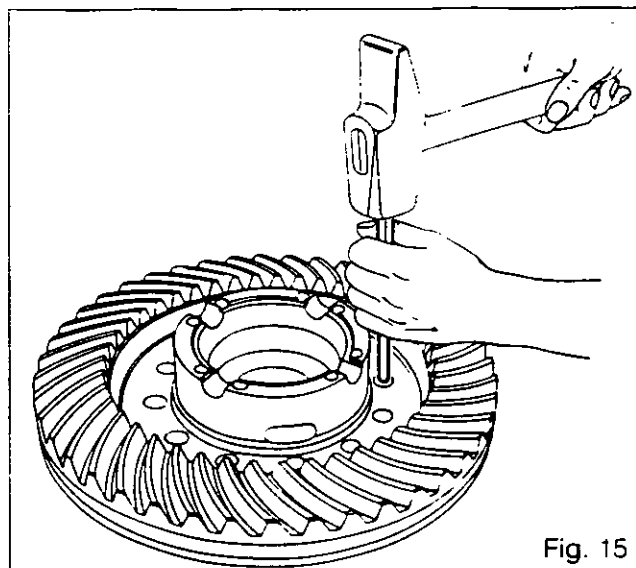

Fig. 15
53. Drive the rivets out with a suitable drift punch (Fig. 15).